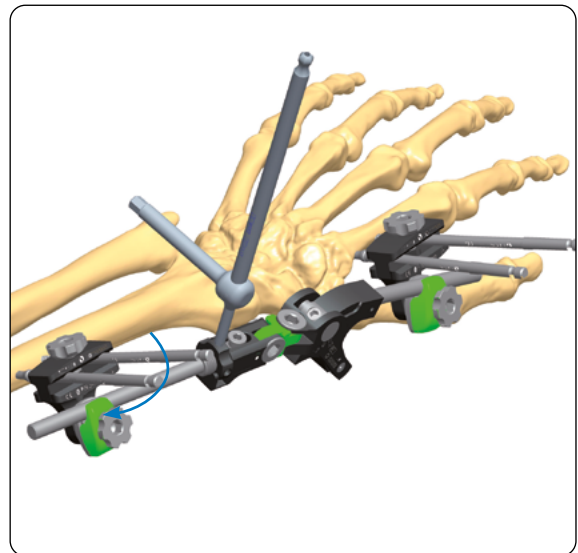

Fig. 28
- Using the Allen Wrench, turn the Compression-Distraction Nut clockwise or counter-clockwise to achieve distraction or compression respectively (**Fig. 28**)